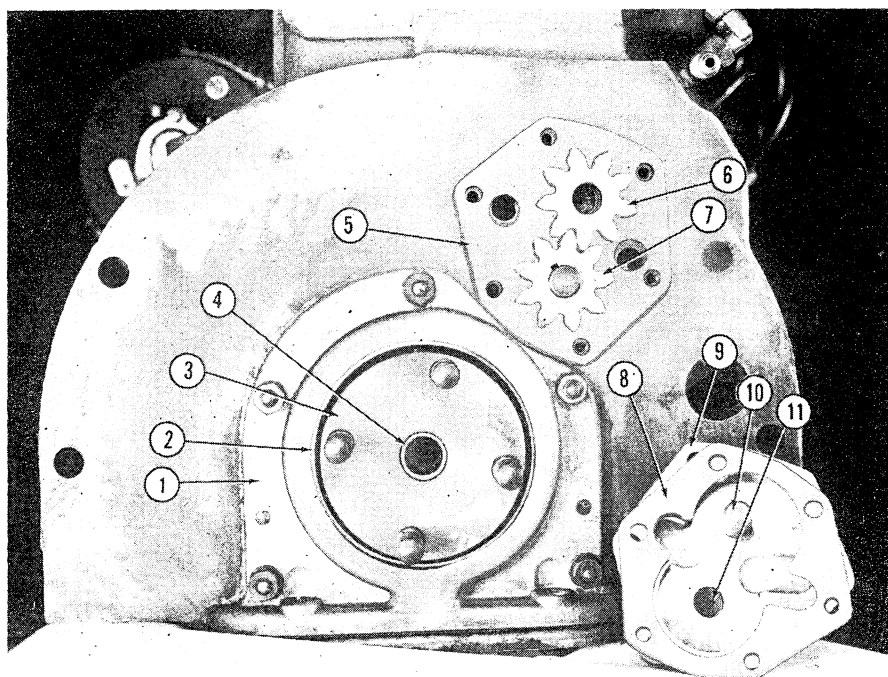

Fig. MH11—Continental N62 oil pump assembly and crankshaft rear oil seal. Repairs on these units require removal of clutch and flywheel.
26. Crankshaft rear seal is a spring-loaded type, pressed into a retainer which is fastened to the rear of cylinder block as shown in Fig. MH11.
29. Pump is located on the rear machined surface of cylinder block as shown in Fig. MH11. Pump is driven by the camshaft. Removal of the pump requires splitting the tractor as outlined in Clutch section and removal of flywheel. A 0.007 thick lead gasket (8) is located between pump body (9) and cover plate (5). Between cover plate and engine is another gasket made of vellumoid. Idler gear shaft (10) is a press fit in the body; diameter of new idler shaft is .501. The body bore for drive gear and shaft assembly (7) contains bronze bushing (11); if bushing is worn it is recommended that new pump body with bushing be installed. Diameter of new drive gear shaft is .4985. Thickness of new drive gear or idler gear is .3735. Check pump for gear backlash which should not exceed 0.005. Gear to pump body side clearance should not exceed 0.004.